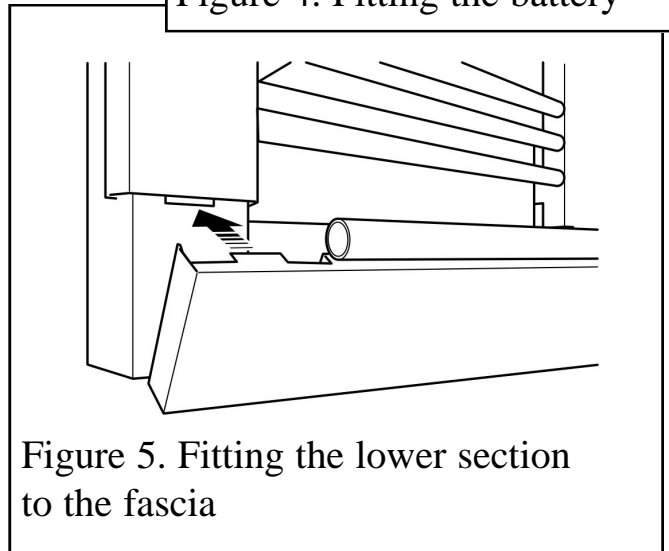

Figure 5. Fitting the lower section to the fascia
3. Replace the firefront / lower fascia section. On the 'Chic' model the lower section of the fascia has two tabs. Locate these into the slots in the fascia (See figure 5). It may be necessary to re-position the magnets that secure the lower section.